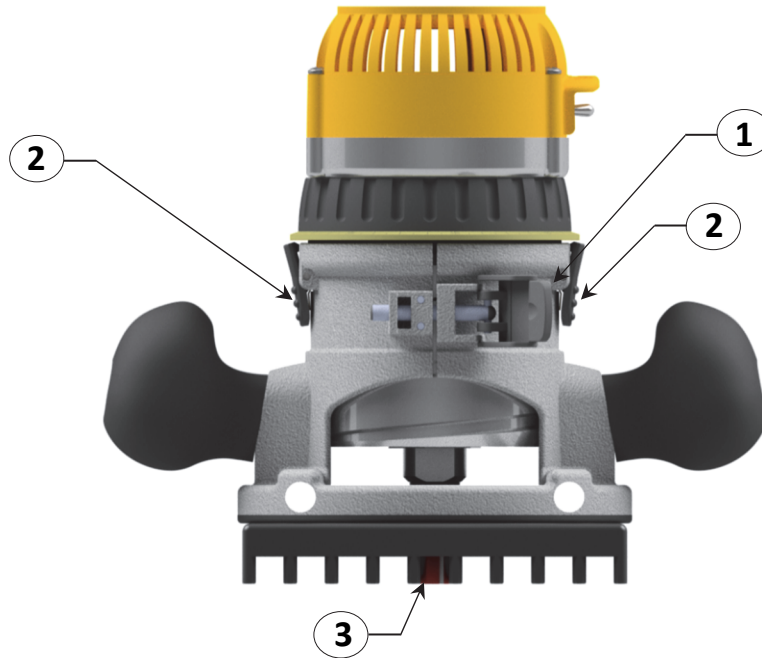

Figure 5.3
- a) Unclamp *Item 1, Figure 5.3*.
- b) Press both levers (*Item 2, Figure 5.3*) in and adjust router base height.
- c) Ensure the router bit is flush to bottom of the attachment plate (*Item 3, Figure 5.3*).